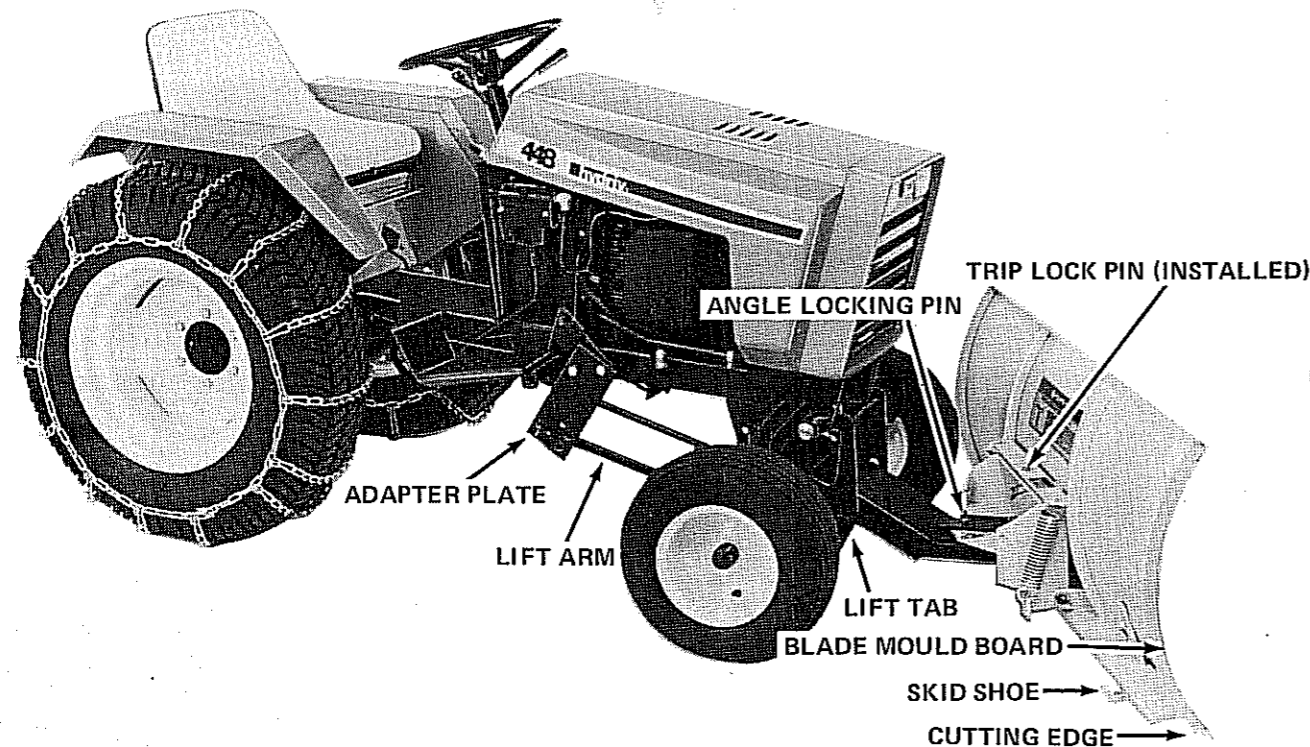

FIGURE 1
- Install the trip lock pin to use the Utility Blade in a rigid position. See Figure 1.